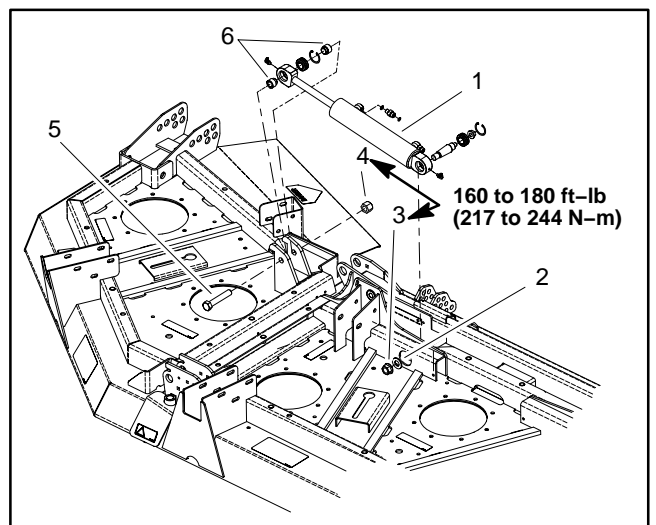

Figure 4
5. Remove wing deck lift cylinders from cutting deck (Fig. 4):
5. Install wing deck lift cylinders to cutting deck (Fig. 4):